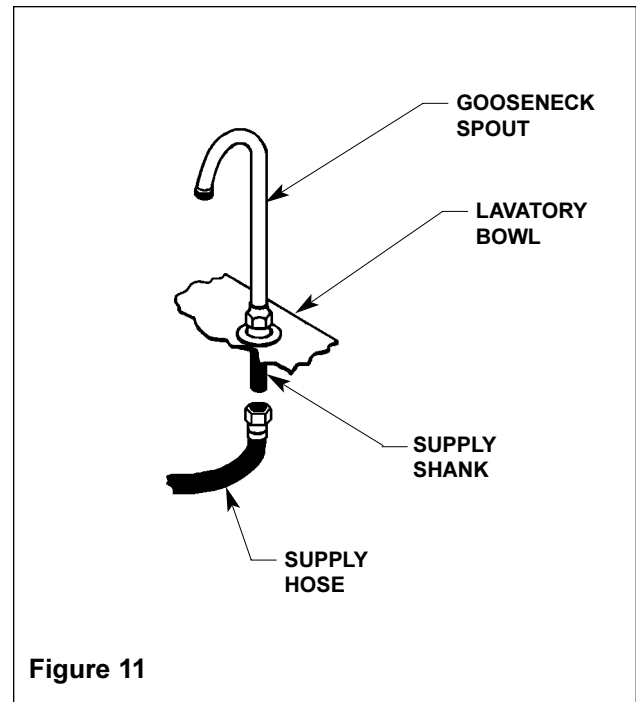

Figure 11
1. Place the faucet onto the countertop, gently inserting the two faucet supply shanks through the holes provided in the lavatory bowl (see Figure 11).
2. Install the two washers provided onto the supply shanks from beneath the countertop. Secure the washers and the faucet to the countertop with the two wingnuts provided (see Figure 11).
3. Connect one end of the flexible supply hose provided to the supply shank (see Figure 11).